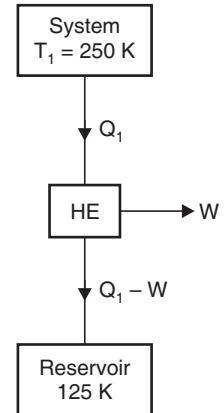

Fig. 3.42
**Solution.** Refer to Fig. 3.42.